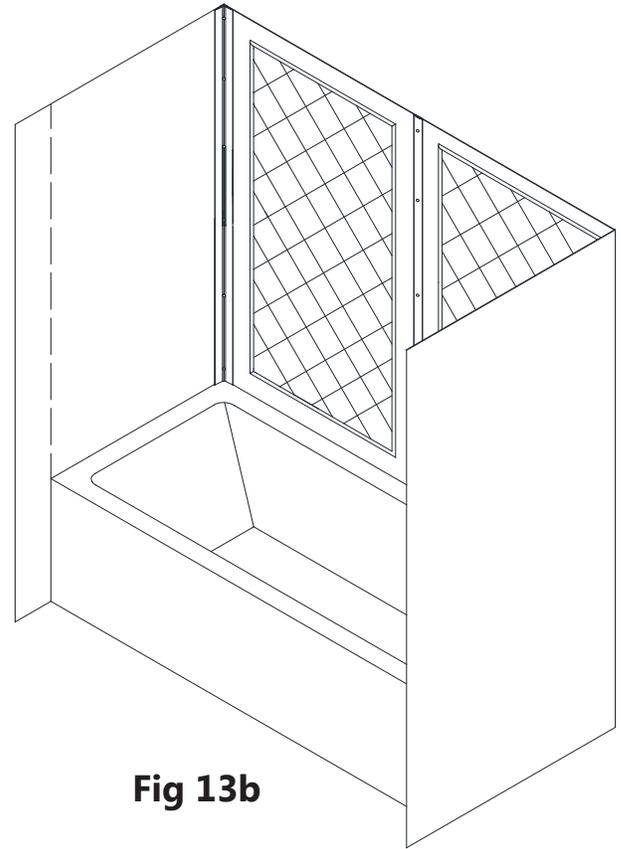

Fig 13b
13. Align both **Back Panels (#02)** at the top and tighten the screws on the **Center Cover (#05)** to secure this assembly in place. Do not tighten the screws on the corner covers yet. (**Fig 13a** and **Fig 13b**)